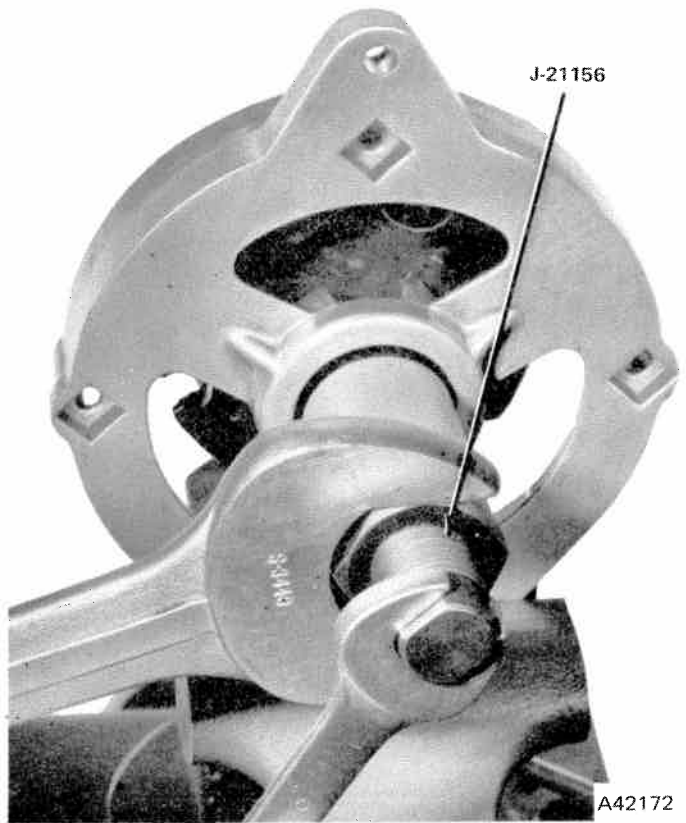

Fig. 3-33 Assembling Front Housing and Rotor
(4) Before installing rotor into front housing, clean any rust or corrosion from shaft. Lightly lubricate rotor shaft.
(5) Use Tool J-21156 and apply sufficient pressure to seat front bearing against shoulder on rotor shaft. Bearing drive tool must fit inner race of bearing (fig. 3-33).